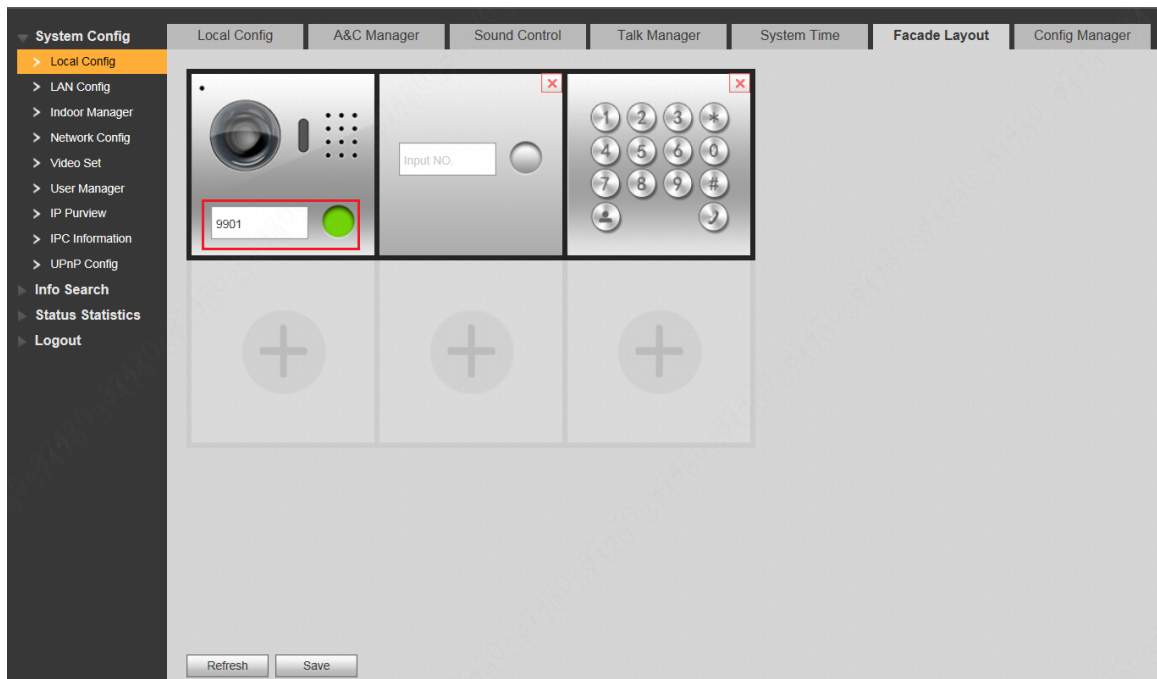

Figure 6-3
- Confirm whether call key is bound with VTH, as shown in Figure 6-3. Please refer to “7.7.2 Facade Layout” for details.